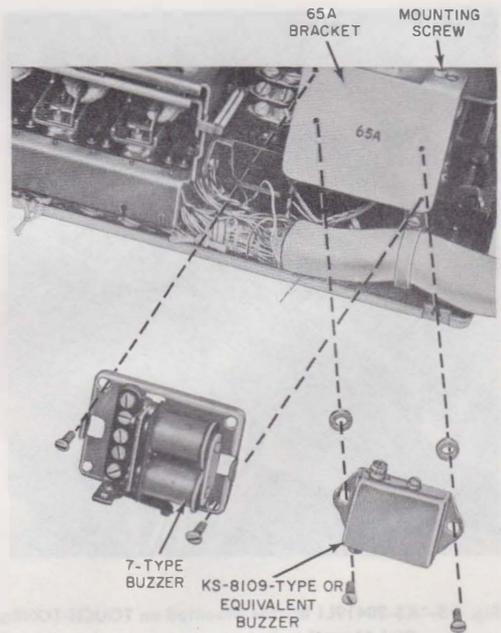

Fig. 18—65A Bracket
3. The 65A (Fig. 18) and 71A (Fig. 19) mount on the dial mounting plate with a dial mounting screw.